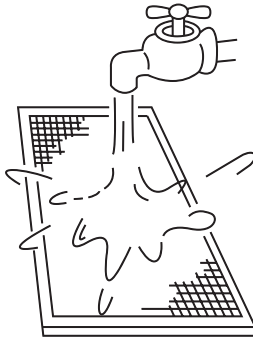

fig.9-4
- The air-in side should face down when using water. (See fig.9-4)**Caution : Do not dry out the air filter under direct sunshine or with fire.**